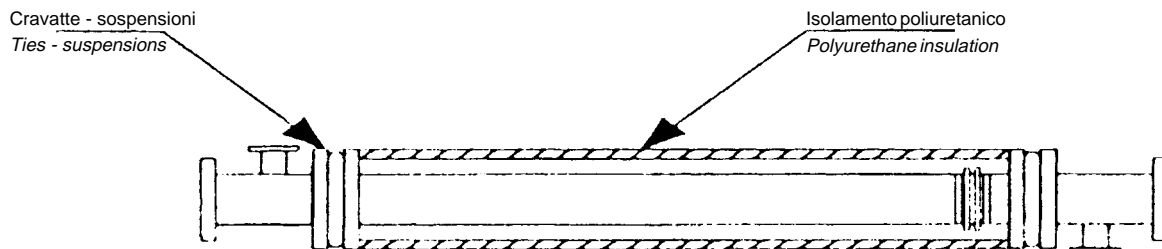

Fig. 6
2.9 In order to protect the expansion joint from external damage and to optimize energy consumption, it is advisable to use a polyurethane insulating jacket as shown in figure 6.